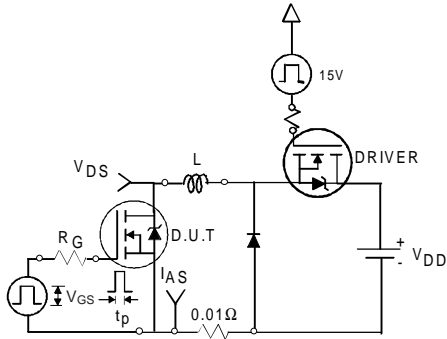

Fig 12a. Unclamped Inductive Test Circuit
- ③ I_{SD} ≤ 85A, di/dt ≤ 310A/μs, V_{DD} ≤ V_{(BR)DSS}, T_J ≤ 175°C
- ④ Pulse width ≤ 400μs; duty cycle ≤ 2%.
- ⑤ C_{oss eff.} is a fixed capacitance that gives the same charging time as C_{oss} while V_{DS} is rising from 0 to 80% V_{DSS}.
- ⑥ Calculated continuous current based on maximum allowable junction temperature. Package limitation current is 75A.
- ⑦ Limited by T_{Jmax}, see Fig. 12a, 12b, 15, 16 for typical repetitive avalanche performance.
3. Equation below based on circuit and waveforms shown in Figures 12a, 12b.